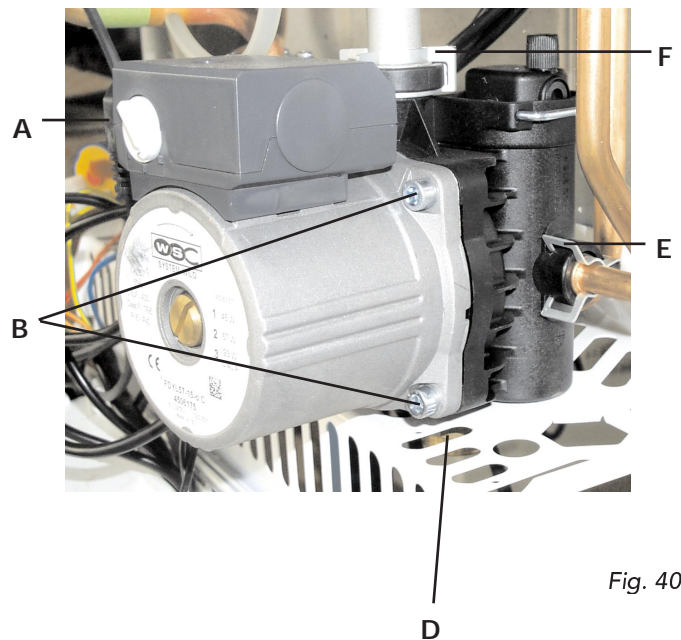

Fig. 40
7.14 Pump (fig. 40)
Replacement of pump body (fig. 40)